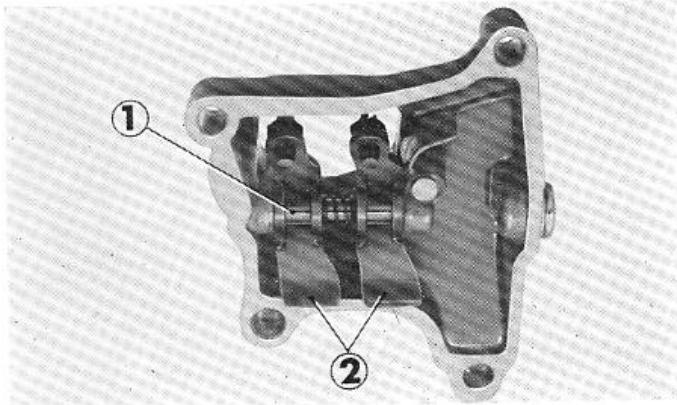

Fig. 2-6 ① Valve rocker arm shaft
③ Valve spring
2. Extract the rocker arm shaft and remove the rocker arms. (Fig. 2-6)